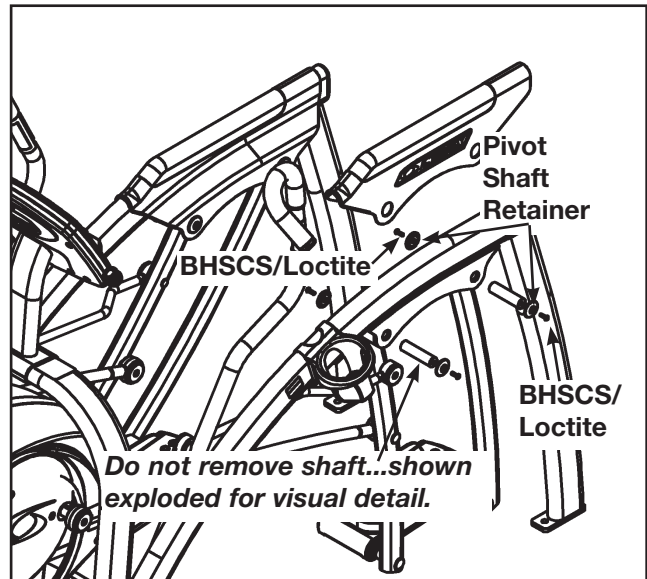

Figure 2
- A. Turn the main power switch above the power inlet to the off (O) position.
- B. Using two 7/32" Allen wrenches, remove the four BHSCS and pivot shaft retainers securing the pivot cover. **NOTE:** Once one of the two screws is removed (two in front and two in back), carefully wedge an Allen wrench into the shaft in order to remove the other screw from the shaft. See Figure 2.